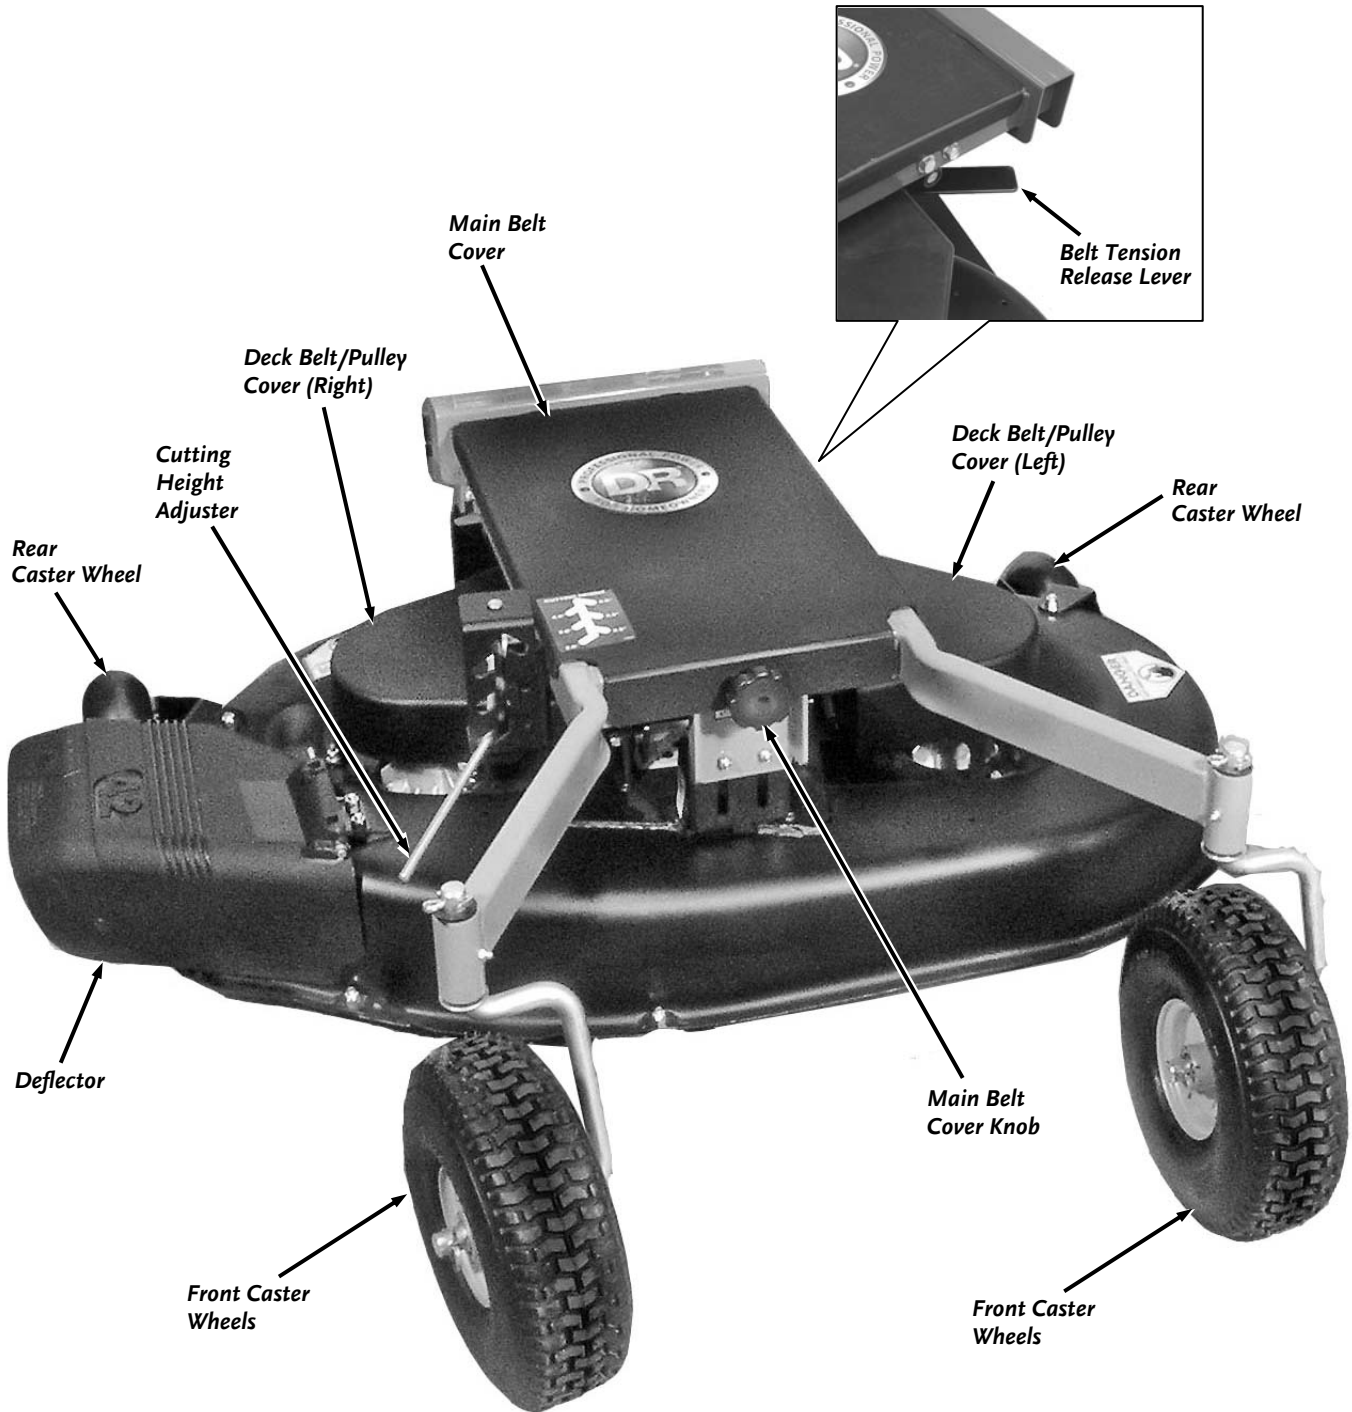

Figure 2
It may be helpful to familiarize yourself with the controls and features of your DR LAWN MOWER DECK as shown in Figure 2 before beginning these procedures. If you have any questions at all, please feel free to contact us at [www.DRpower.com](http://www.DRpower.com).
1. Hold down the Operator Presence Lever (**Figure 2**) of your DR Field and Brush Mower.